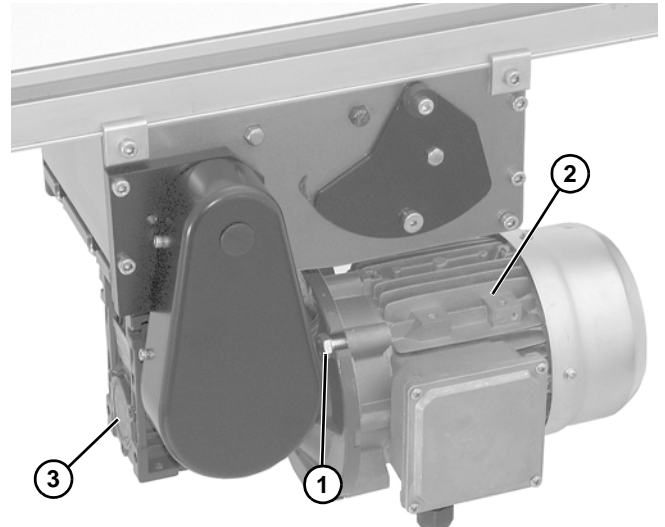

Figure 33
1. Remove four screws (Figure 33, item 1). Detach motor (Figure 33, item 2) from gear reducer (Figure 33, item 3). Retain motor output shaft key.
2. Apply anti-seize to motor shaft before assembling to gearbox. With key in keyway, slide motor (Figure 33, item 2) and gear reducer (Figure 33, item 3) together. Install screws (Figure 33, item 1) and tighten.